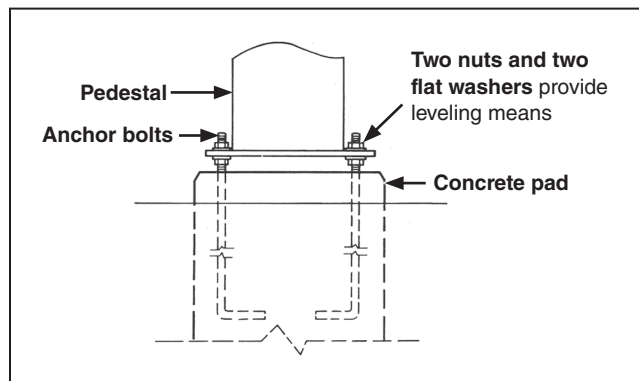

Figure 4. Pedestal anchor-bolt mounting detail.
- STEP 1.** Install the lower set of anchor-bolt nuts and flat washers onto the pre-installed anchor bolts. Level all anchor bolts to the same height, leaving space below and above the bolt for leveling. See Figure 4.
- STEP 4.** Lower the pedestal onto the anchor-bolt nuts and flat washers. Loosely secure a flat washer and nut to each anchor bolt. See Figure 4. Remove lifting slings and eyebolts.
- STEP 5.** Adjust the lower set of anchor-bolt nuts to plumb and level the pedestal. The upper set of anchor-bolt nuts should remain loosely attached. See Figure 4.
**STEP 9.** Check the lower set of anchor-bolt nuts at each mounting pedestal to verify all nuts are in contact with the bottom of the pedestal. Hand-tighten the anchor-bolt nuts as necessary, and then securely tighten the upper set of anchor-bolt nuts at each mounting pedestal. See Figure 4 on page 10.